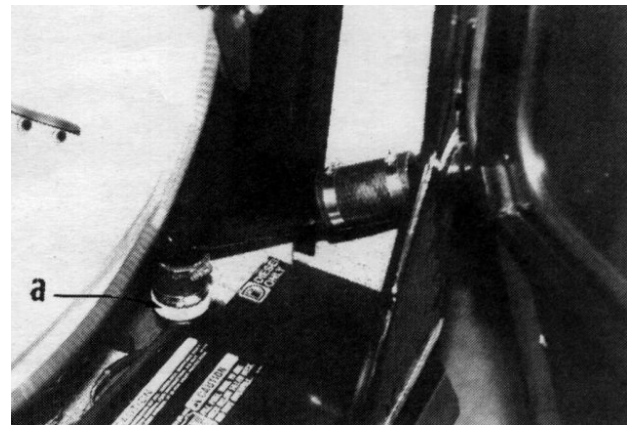

Figure 12
3. Screw the fuel neck adapter onto the fuel tank filler neck. (Figure 12-A)
5. Install the elbow onto the fuel neck adapter and to the filler neck extension in the side of the cab using the hose clamps supplied in the mounting kit as shown in Figure 12.